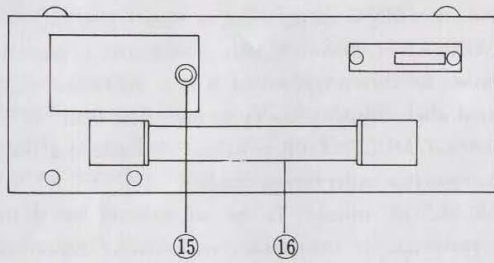

Fig. 1-2 Rear side of case.
- ⑤ RANGE MULTIPLIER switches: For selecting the ranges of components under measurement.
- ⑥ SELECTOR switch: To be set at R, C, or L (resistance, capacitance, or inductance, respectively) depending on the component to be measured.
- ⑦ NULL indicator: 10-0-10 scale used for DC resistance measurements and 0-10 scale (at right of 0) for capacitance and inductance measurements.
- ⑧ Mechanical zero adjust for NULL indicator.
- ⑨ D, Q dial: With two scales, outer for dissipation factor, D, and inner for R_E (equivalent series resistance) calibrated for values at 1kHz. But actual equivalent series resistance must be calculated through 2.5 or 2.6 on page 10 and page 11.
- ⑩ $\times 1 - \times 10$ switch: Selects the multiplier for the D and R_E readings on the D, Q dial.
- ⑪ SOURCE switch: Selects the internal bridge operating source, DC for DC resistance measurements and AC at 1kHz for resistance, capacitance and inductance measurements.
- ⑫ RED HI
- ⑬ BLUE EXT. +DC) For connections to the unknown component under measurement; both are "floating" terminals from ground.
- ⑭ BLACK terminal: For grounding to the case.
B. Rear Side of Case, Fig. 1-2